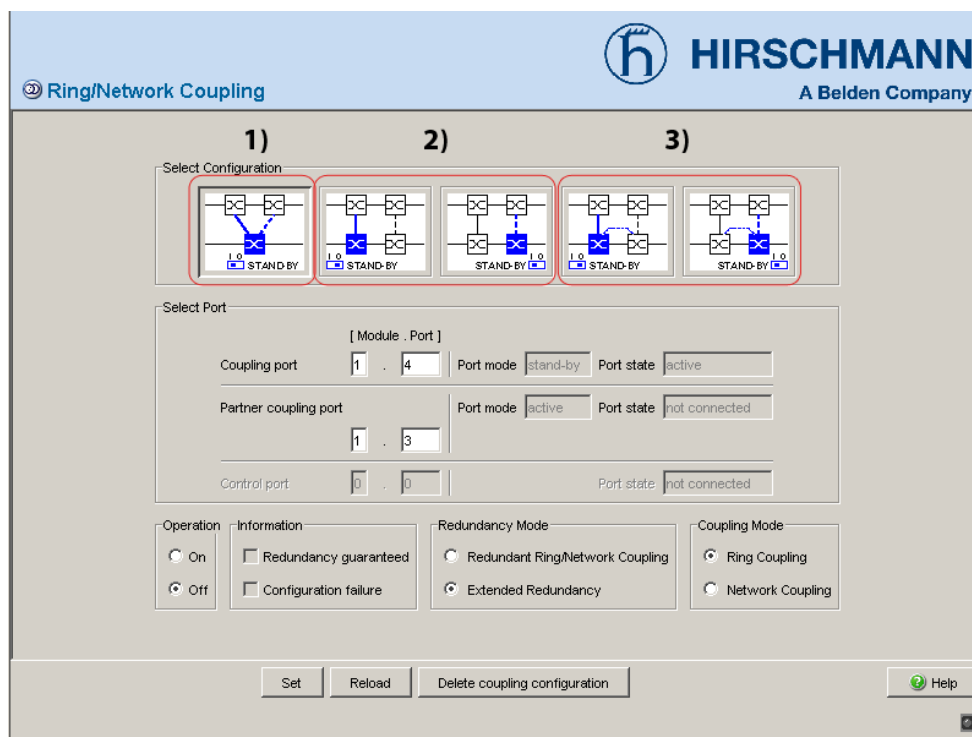

Fig. 11: Selecting the configuration
- You first select the configuration you want: One-switch coupling (“1”), two-switch coupling (“2”) or two-switch coupling with control line (“3”), (see Fig. 11).